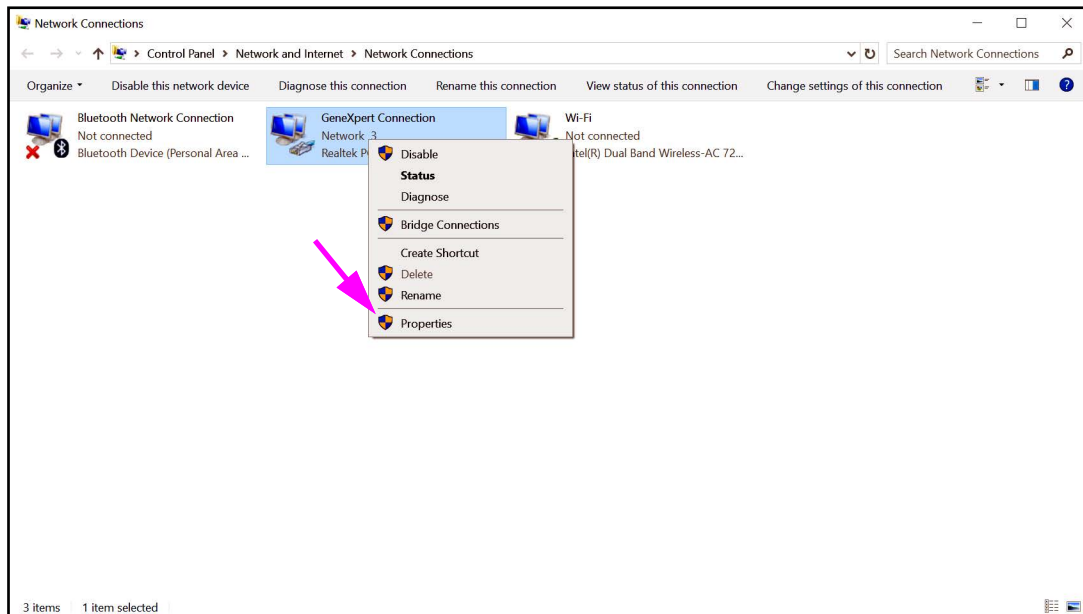

Figure 2-27. Network Connections Screen with Drop-Down Menu
4. Click **View network status and tasks**. The **Network and Sharing Center** screen appears. See Figure 2-27.